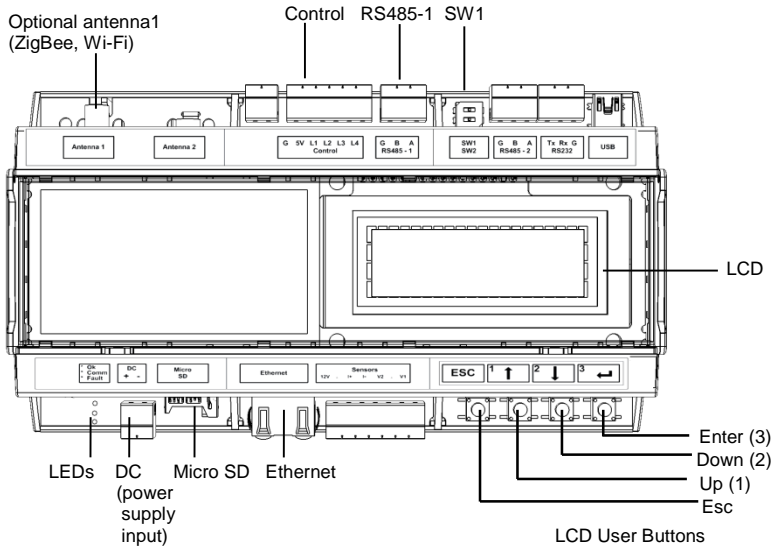

Figure 3: Gateway interfaces
Four buttons are used for controlling the LCD menus (see Figure 3).
- 1 Insert the power supply DC connector to the SolarEdge gateway (see Figure 3).
- 2 Connect the power supply to the AC mains. The LEDs are lit momentarily to indicate power connection (see Figure 3)